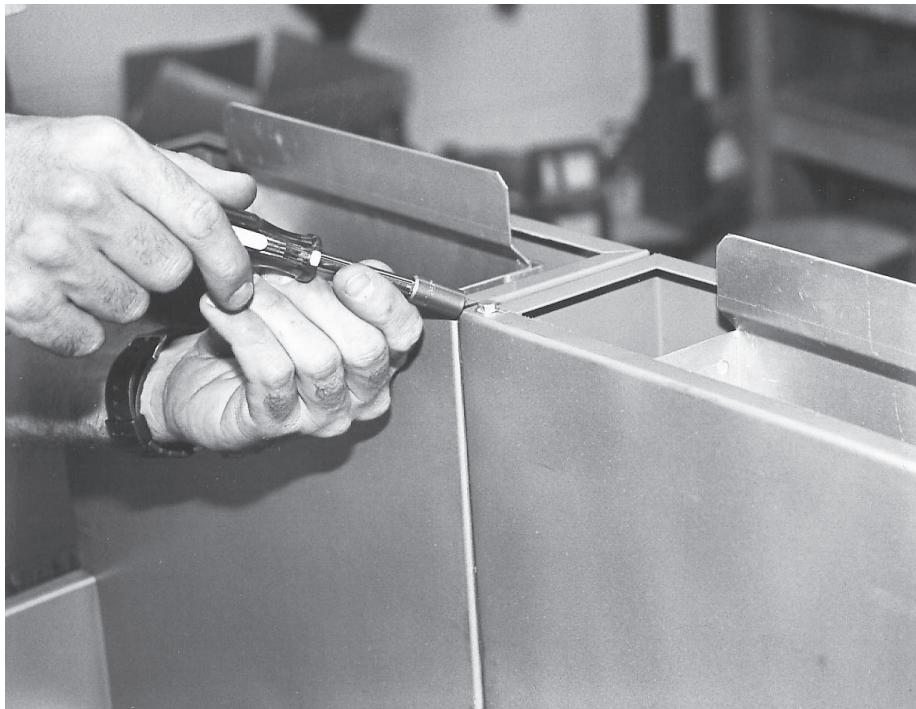

Fig. 72
8. With a 5/16" socket remove (2) screws from the top flue area that secure the tank back to the flue wrap. (Fig. 72)